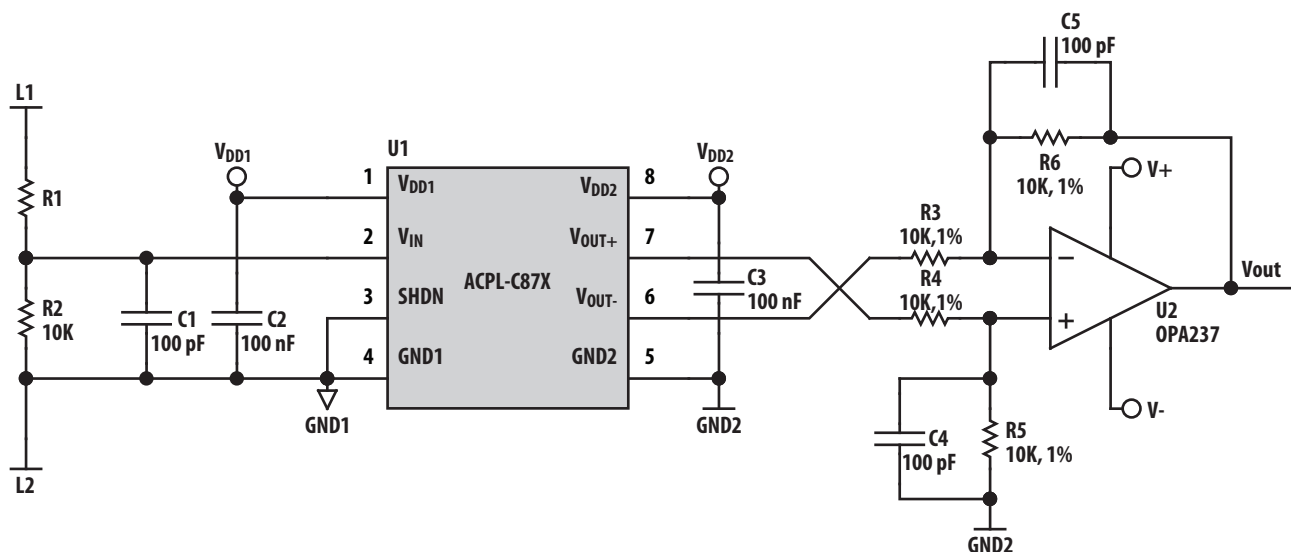
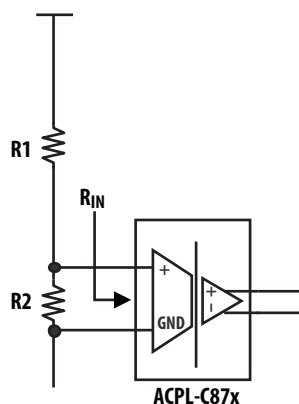

Figure 19. Typical application circuit.
Figure 20. Simplified Input Stage.
The typical application circuit is shown in Figure 19. The ACPL-C87X voltage sensor is often used in photo-voltaic (PV) panel voltage measurement and tracking in PV inverters, and DC bus voltage monitoring in motor drivers. The high voltage across rails needs to be scaled down to fit the input range of the iso-amp by choosing R1 and R2 values according to appropriate ratio.
The input stage of the typical application circuit in Figure 19 can be simplified as the diagram shown in Figure 20. R_2 and R_{IN} , input resistance of the ACPL-C87X, create a current divider that results in an additional measurement error component that will add on to the tot on top of the device gain error. With the assumption that R_1 and R_{IN} have a much higher value than R_2 , the resulting error can be estimated to be R_2/R_{IN} .